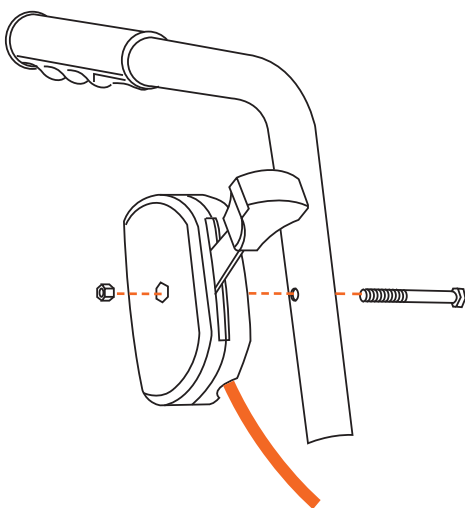

Figure 7
2. Push a threaded hex bolt through the base of the lever and secure with a nylock hex nut (see Figure 7).